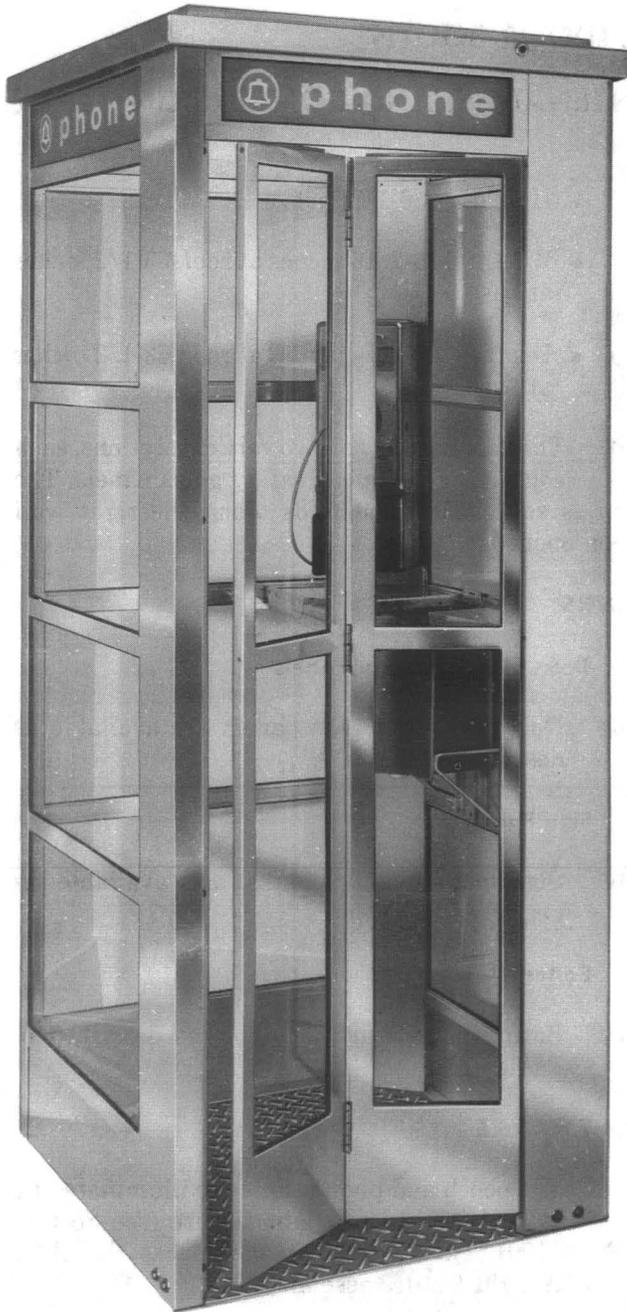

Fig. 1—KS-14611 Airlight Outdoor Booth
1.01 The KS-14611 booth (Fig. 1) is an outdoor aluminum and glass phone booth designed for single installation only. This booth has been manufacture discontinued (MD).